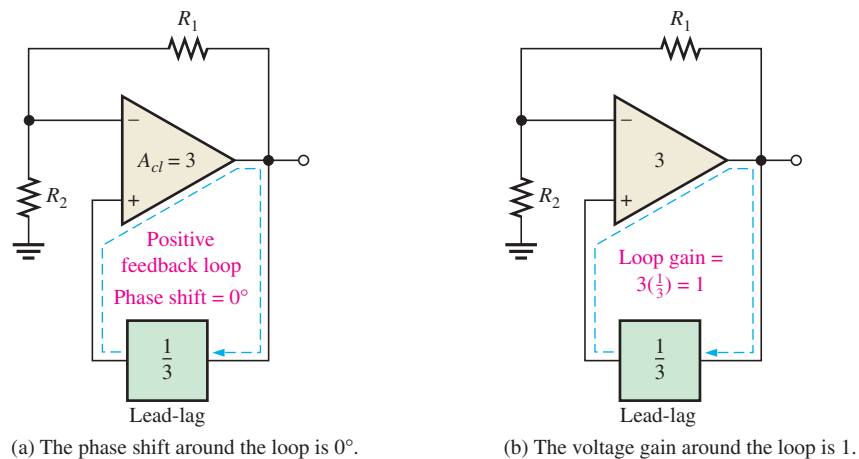

FIGURE 10–8 Conditions for oscillation.
The circuit is redrawn in Figure 10–7(b) to show that the op-amp is connected across the bridge circuit. One leg of the bridge is the lead-lag network, and the other is the voltage divider.
POSITIVE FEEDBACK CONDITIONS FOR OSCILLATION As you know, for the circuit to produce a sustained sinusoidal output (oscillate), the phase shift around the positive feedback loop must be 0° and the gain around the loop must equal unity (1). The 0° phase-shift condition is met when the frequency is f_r because the phase shift through the lead-lag network is 0° and there is no inversion from the noninverting (+) input of the op-amp to the output. This is shown in Figure 10–8(a).
This offsets the $\frac{1}{3}$ attenuation of the lead-lag network, thus making the total gain around the positive feedback loop equal to 1, as depicted in Figure 10–8(b). To achieve a closed-loop gain of 3,
START-UP CONDITIONS Initially, the closed-loop gain of the amplifier itself must be more than 3 ($A_{cl} > 3$) until the output signal builds up to a desired level. Ideally, the gain of the amplifier must then decrease to 3 so that the total gain around the loop is 1 and the output signal stays at the desired level, thus sustaining oscillation. This is illustrated in Figure 10–9.
The circuit in Figure 10–10 illustrates a method for achieving sustained oscillations. Notice that the voltage-divider network has been modified to include an additional resistor R_3 in parallel with a back-to-back zener diode arrangement. When dc power is first applied,